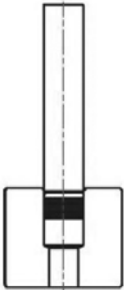

Fig. 3
- The pin can now be pressed in until the top of the pin is flush with the top surface of the sleeve. Corresponding approximate values for stroke S, as well as the dimension X can be referred from the dimensional sheets (Fig. 3, 4 and 5).